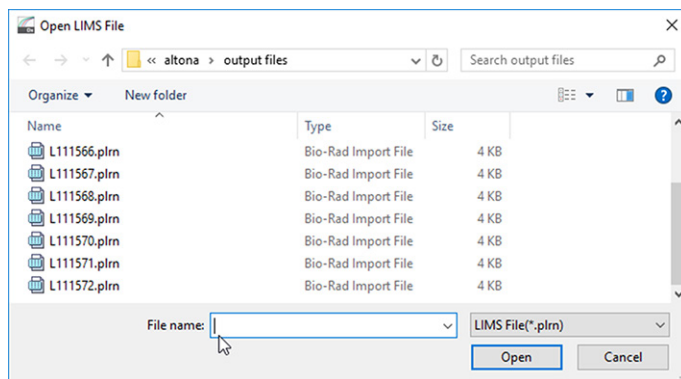

Figure 26: Open LIMS File dialog
4. In the opening **Open LIMS File** dialog, make sure that the cursor is blinking in the **File name** field at the bottom (see Figure 26). If it is not, click into the **File name** field.